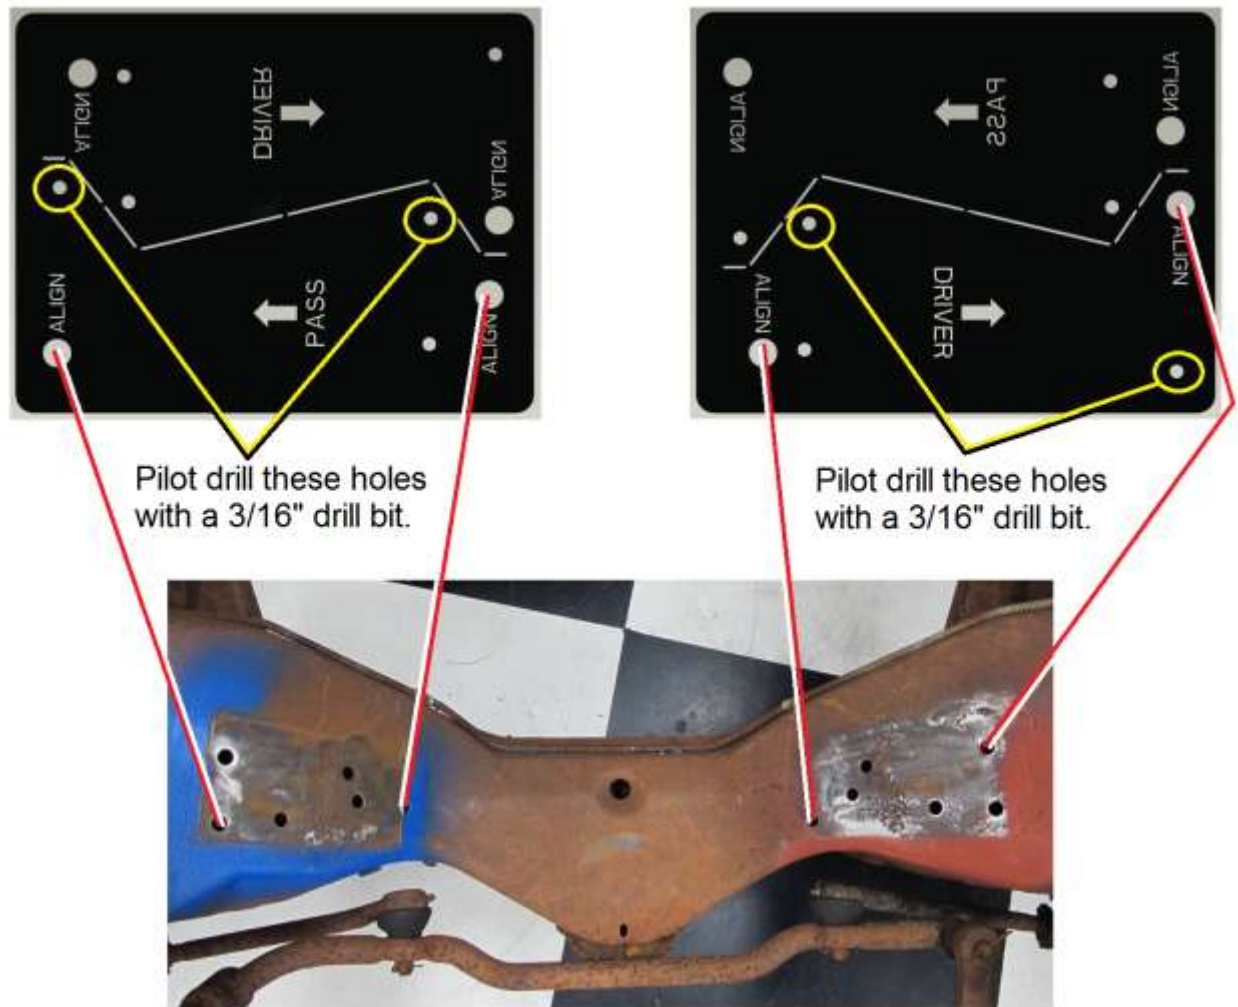

Figure 1
1. Remove the factory engine frame stands (brackets to which engine mounts are attached) from the sub-frame. Next, align the included drilling template with the existing holes in either side of the sub-frame following **Figure 1** on the next page and pilot drill two 3/16" diameter holes in each side of the sub-frame in the positions indicated by the template. Use 3/8" bolts as guide pins in the template "align" holes to keep it in position as you drill.